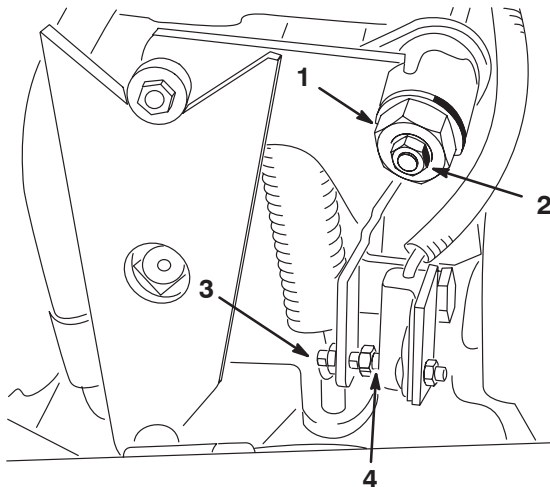

Figure 24
4. Loosen the locknut on the traction adjustment cam (Fig. 24).
5. Start the engine and rotate the cam hex (Fig. 24) in both directions to determine the mid position of the neutral span.
3. Adjust the screw until the air gap is .060 inches \pm .030 (Fig. 24).